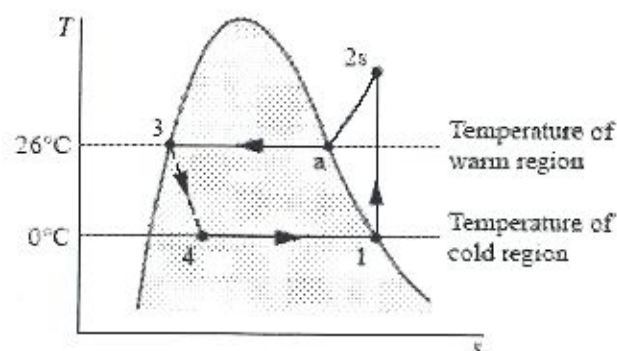

Figure Q3
b) Refrigerant 134a is the working fluid in an ideal vapour-compression refrigeration cycle, shown in Figure Q3, which communicates thermally with a cold region at 0°C and a warm region at 26°C . Saturated vapour enters the compressor at 0°C and saturated liquid leaves the condenser at 26°C . The mass flow rate of the refrigerant is 0.08 kg/s . Determine